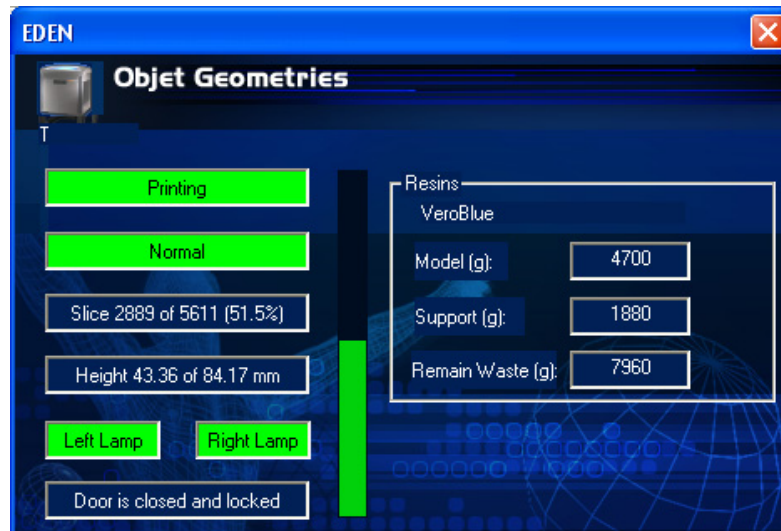

Figure 6-3: Eden printer status screen
--	Displays the status of the Eden 3-D printer (see figure 6-3).